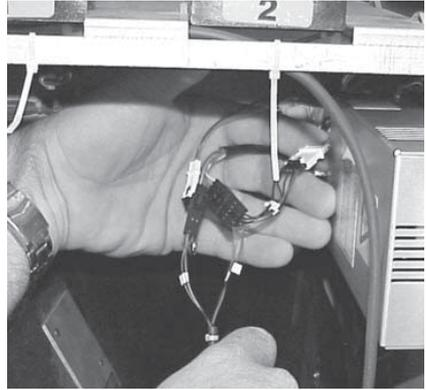

Figure 5
12. Attach the new harness to the Bill Validator connectors (see Figure 5).